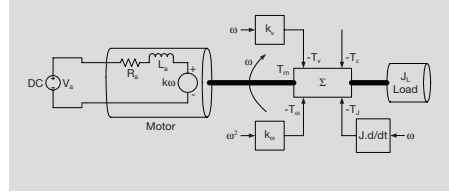

**Figure A.2 Block Diagram of PMDCM Driving Different Torque Loads**
The output torque of the motor, therefore, may have to drive all the listed torques as shown in Figure A.2 and by Equation (2):